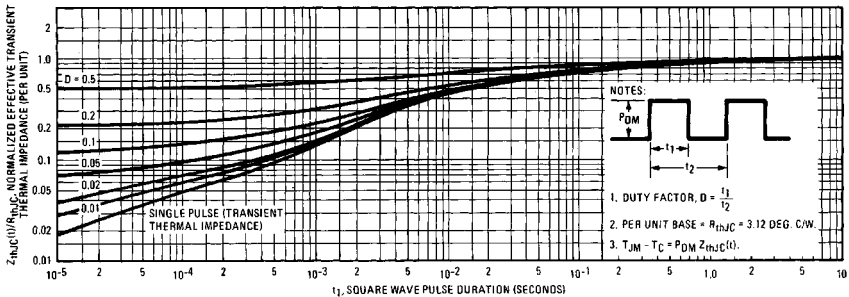

Fig. 5 — Maximum Effective Transient Thermal Impedance, Junction-to-Case Vs. Pulse Duration
① Repetitive rating; pulse width limited by max. junction temperature (See Figure 5)
③ $I_{SD} \leq 3.5A, di/dt \leq 95A/\mu s, V_{DD} \leq V_{(BR)DSS}, T_J \leq 150^\circ\text{C}$
② Not Applicable
④ Pulse width $\leq 300 \mu s$; duty cycle $\leq 2\%$.